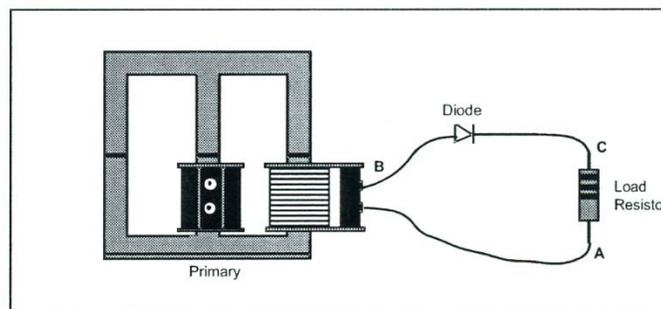

Fig. 6: secondary circuit with load resistor and diode.
21. Add a diode in series with the resistor as shown in Fig. 6. The band on the diode should point toward the resistor. Adjust  $V_P$  to 2 volts.